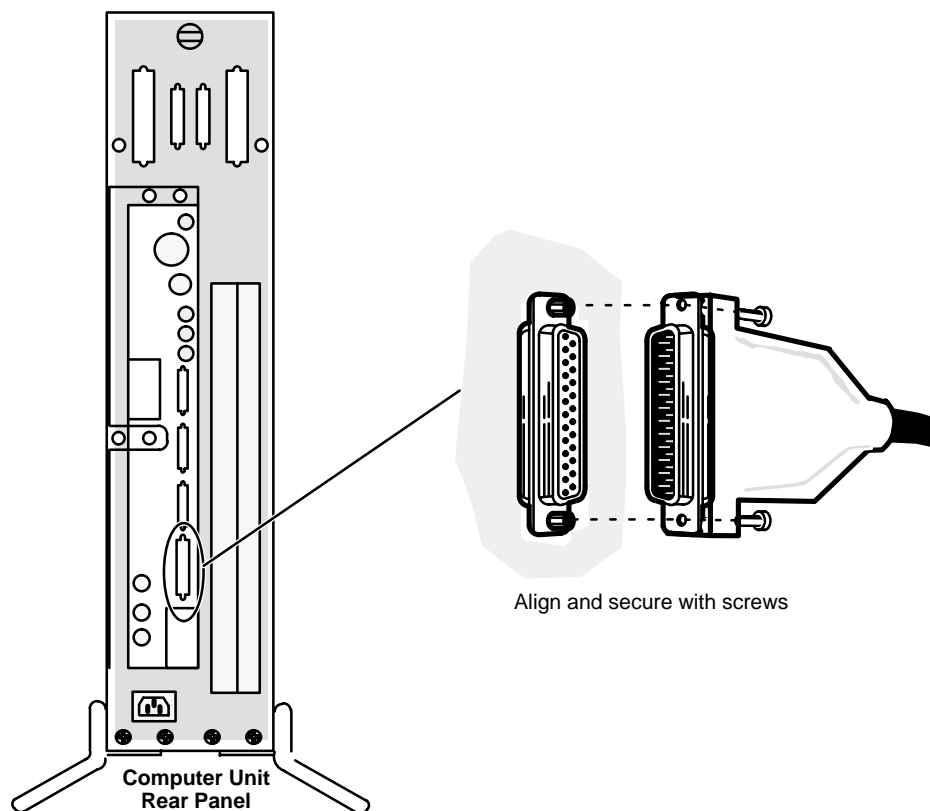

Figure 2-11 Connecting a Parallel Printer to the Computer Unit
1. Plug the 25-pin end of the printer cable into the parallel printer connector on the back of the computer unit as shown in Figure 2-11. Attach the printer cable to the connector by tightening the two screws on the printer cable.